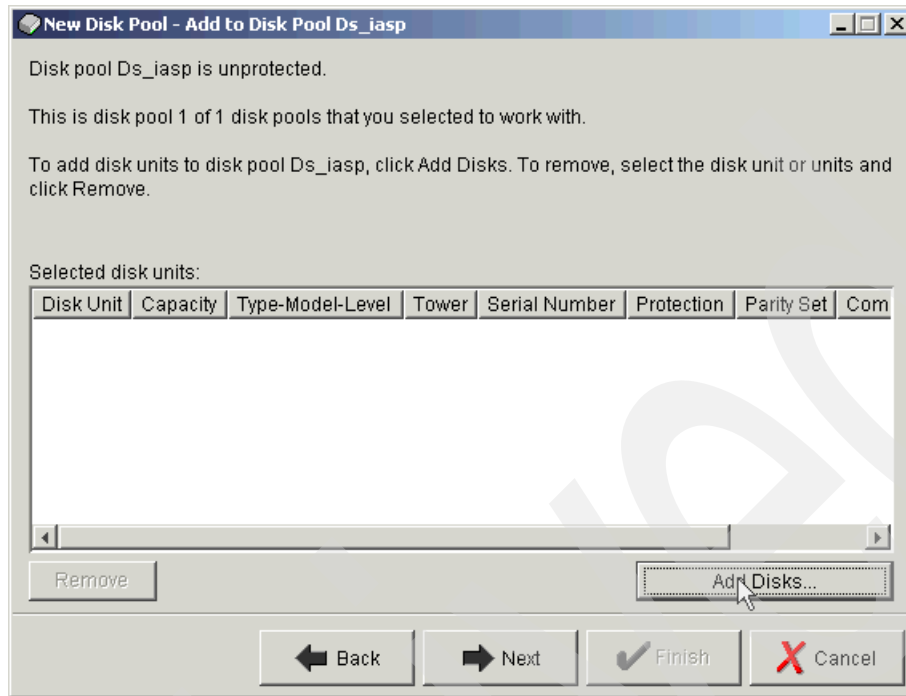

Figure 5-29 Adding disks to the disk pool
- In the New Disk Pool - Add to Disk Pool window (Figure 5-29), click **Add Disks** to add disks to the new disk pool.